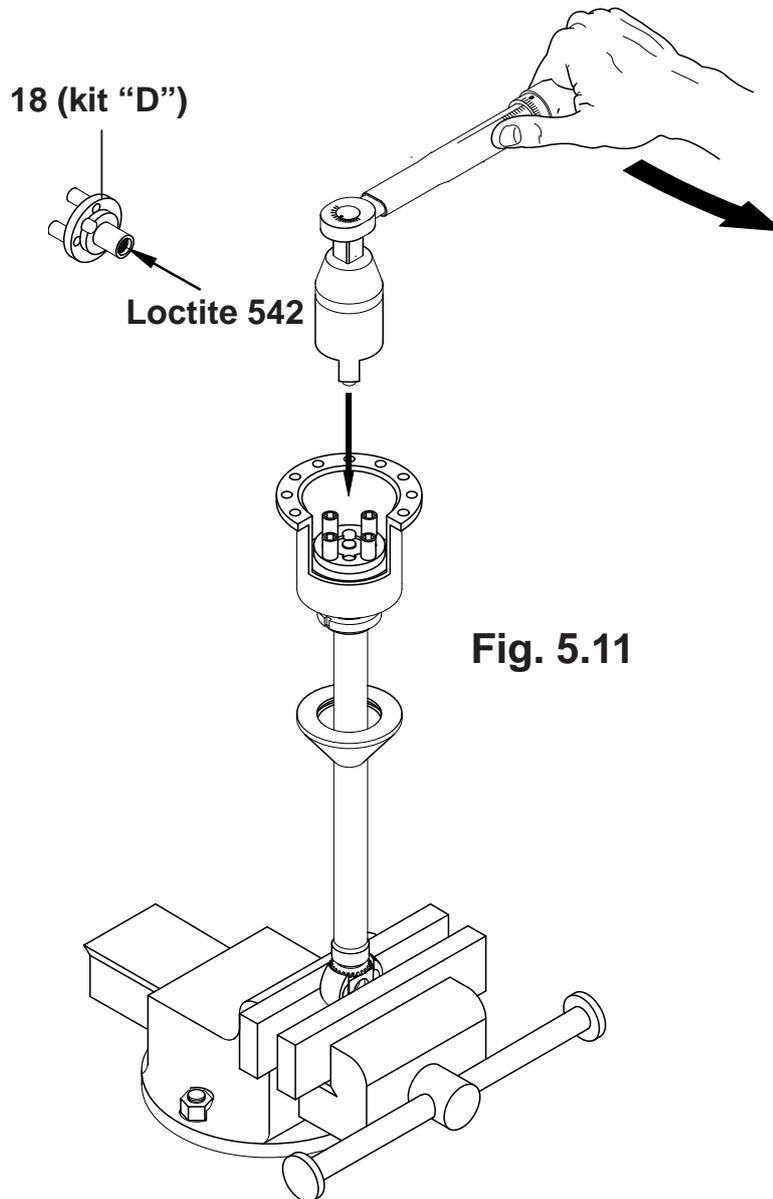

Fig. 5.11
5.12) Put a few drops of Loctite 222 on the thread of the output shaft **pos.18 (Kit "D")**, screw the same onto the internal rod and tighten with the special spanner supplied (BZ0031) and check with dynamometer (**fig.5.11**).